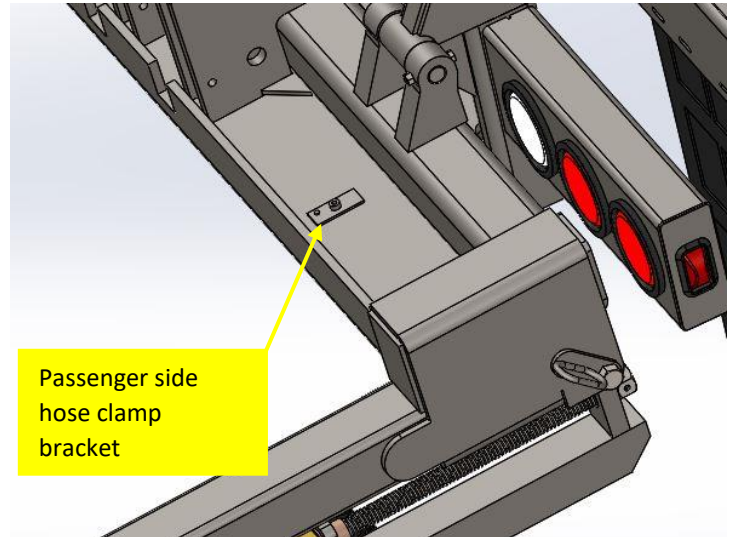

Figure 6
3. Move the Reel Lift arms to the unload position to gain access to the hose clamp bracket(s) under the rear assembly. Locate the bracket for the hydraulic blocks (**ITEM 5**) on the passenger side of the rear assembly welded onto the cover sheet. **Figure 6**